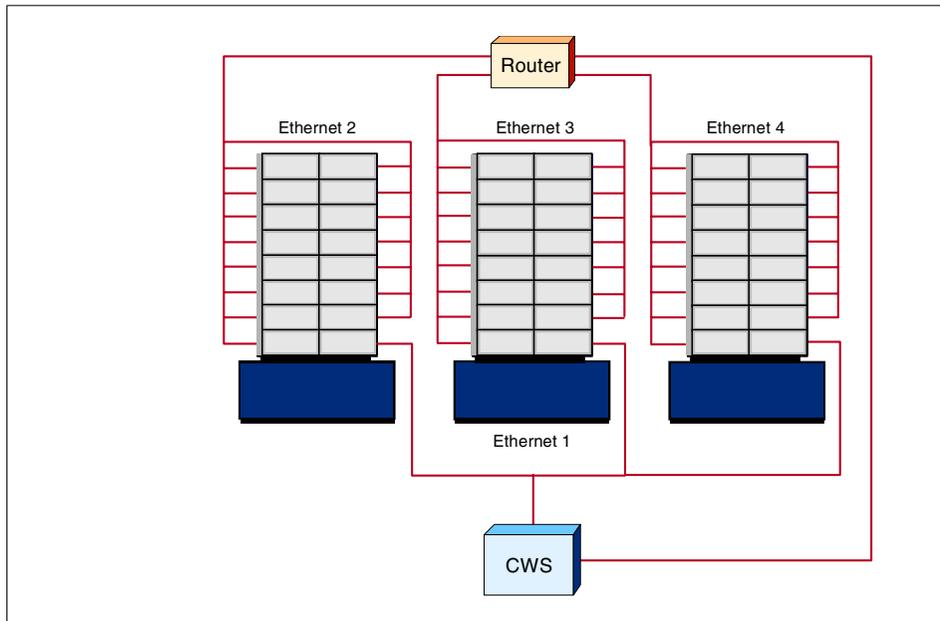

Figure B-9 Method 3 - Ethernet topology for multi-frame SP system
3. A third method adds an external router to the topology of the previous approach. This router is made part of each of the frame Ethernets, so that traffic to the outside need not go through the control workstation. You can do this only if the control workstation can also be attached externally, providing another route between nodes and the control workstation. Figure B-9 shows this Ethernet topology for such a multi-frame system.